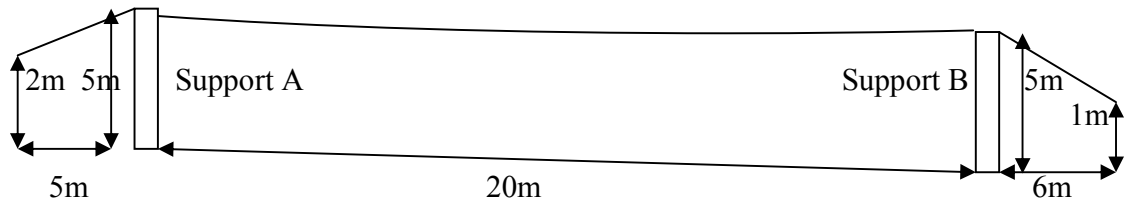

Figure. 8
- (b) A cable bridge as shown in the figure.8 is loaded by a udl of 10kN/m. the cable has sag of 1.5m at the centre. Calculate the maximum axial force in the cable. Also calculate the forces acting on the pillars. **06**